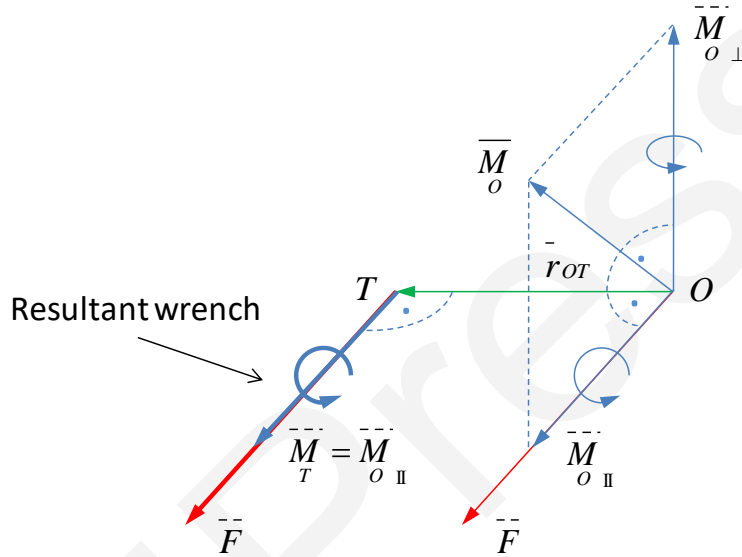

Figure 23
- Let's decompose resultant moment  $\vec{M}_O$  into two components. One of the components ( $\vec{M}_{O//}$ ) is parallel to resultant force  $\vec{F}$  the other one ( $\vec{M}_{O\perp}$ ) is perpendicular to it (*Figure 23*).